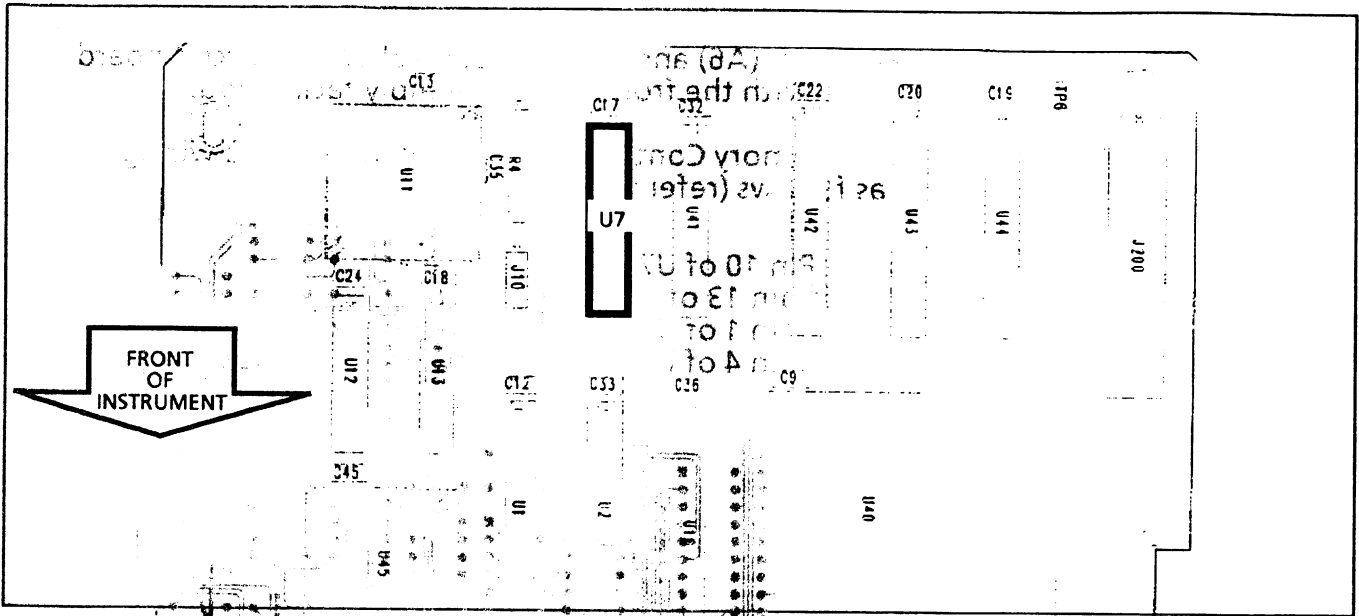

Fig. 2. Partial Decoder/Proc Amp circuit board (A5) showing location of U7.
- 5. Replace U7 on the Decoder/Proc Amp circuit board (A5) with the 160-8419-01 IC provided in the kit. See fig. 2 for location.